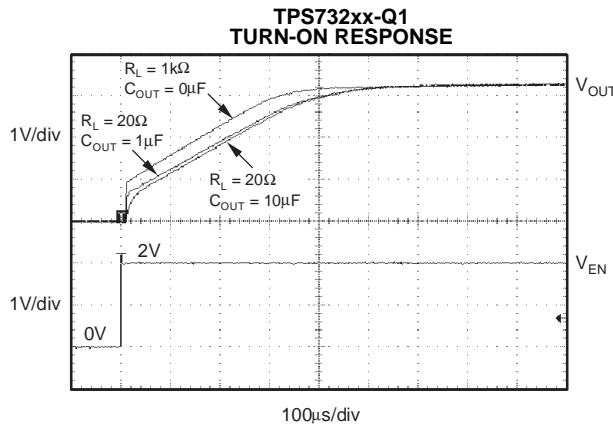

Figure 22.
The enable pin (EN) is active high and is compatible with standard TTL-CMOS levels. A  $V_{EN}$  below  $0.5 \text{ V}$  (max) turns the regulator off and drops the GND pin current to approximately  $10 \text{ nA}$ . When EN is used to shutdown the regulator, all charge is removed from the pass transistor gate, and the output ramps back up to a regulated  $V_{OUT}$  (see Figure 22).